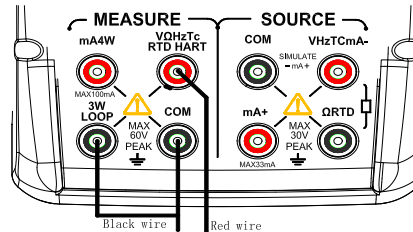

Figure 14 RTD signal with 3w method
Three wire connection method for RTD signal (Figure 14)
Step 3: Connect the lead cables for measurement to the measuring terminals of the measuring calibrator under test as shown in Figure 14.